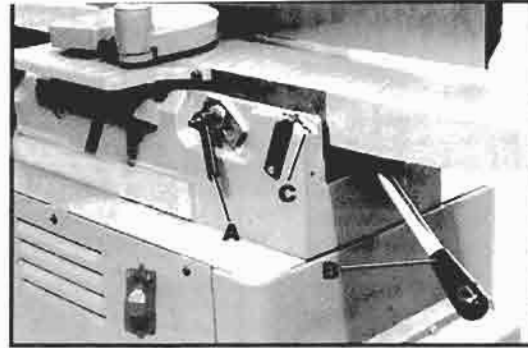

Fig. 25
To raise or lower the infeed table, loosen table lockhandle (A) Fig. 25, and move the table raising and lowering hand lever (B), up or down until the table is at the desired position and tighten table lockhandle (A). **NOTE:** The table lockhandle (A) can be repositioned by pulling out the handle and repositioning it on the serrated nut located under the handle.
The depth of cut of the infeed table (position of table in relationship with the cutting circle) can be read with the pointer and scale (C) Fig. 25.